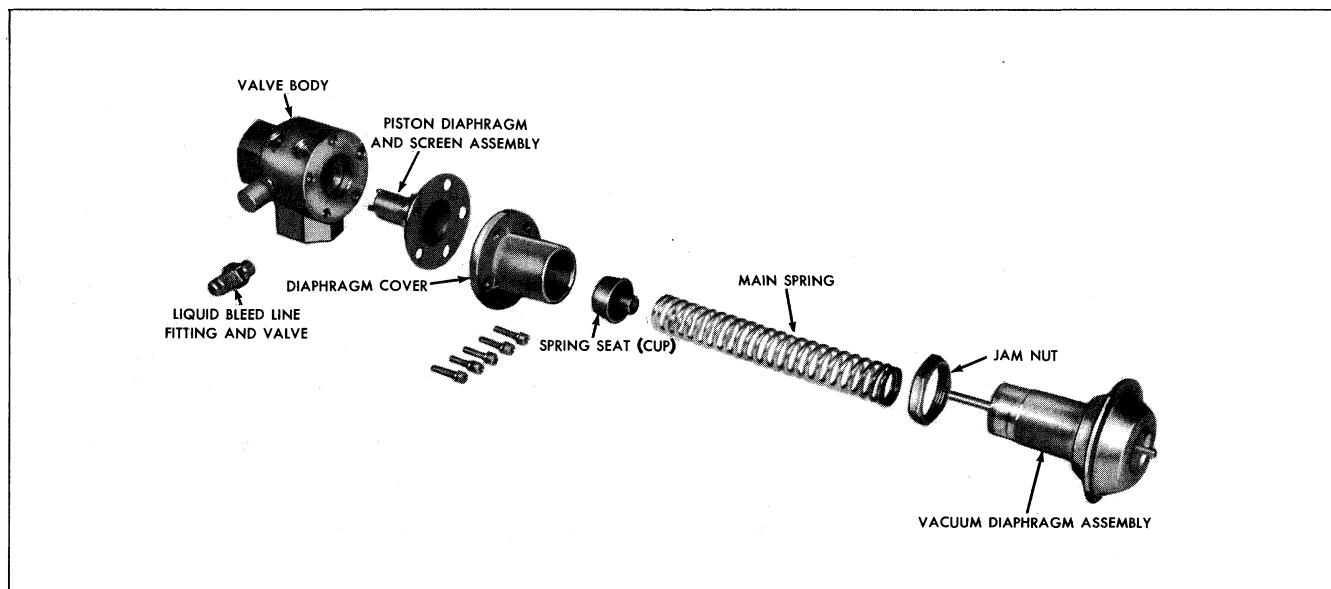

Fig. 5-40 Suction Throttling Valve
2. Disconnect expansion valve equalizer line at the suction throttling valve (Fig. 5-40). Plug openings.
SUCTION THROTTLING VALVE—OVERHAUL (See Fig. 5-40)